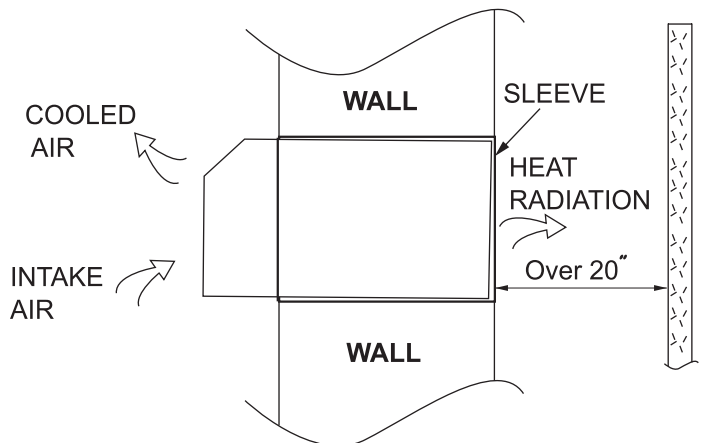

Figure 6
- When installing the sleeve,make certain there is nothing within 20 of the back that would interfere with heat radiation and exhaust air flow. (See Figure 6)